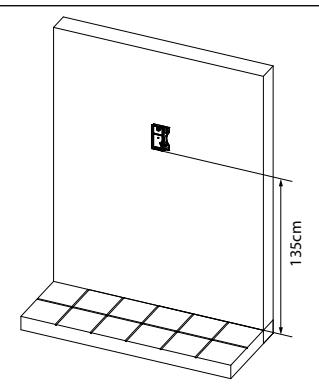
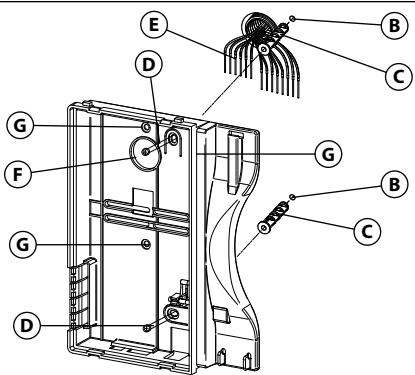

Fig. 3
Fig. 4
- Put the base of the unit on the wall at approx 135cm from the finished floor (Fig. 3) to mark the points for the fixing holes (B) (Fig. 4) remembering that the wires (E) (Fig. 4) must be fed through the hole (F) (Fig. 4). If you use the flush mounting box 503, embed it into the wall vertically at approx. 140cm from the finished floor and the base.
- Following Fig. 4, make the holes (B), insert the wall plugs (C) and fix the base with the screws (D) feeding the wires (E) into the hole (F). If you have used the box 503, fix the base to the wall through the holes (G) using the screws (D).